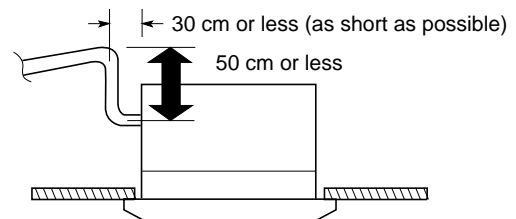

Fig. 2-9
- If it is necessary to increase the height of the drain pipe, the section directly after the connection port can be raised a maximum of 50 cm. Do not raise it any higher than 50 cm, as this could result in water leaks. (Fig. 2-9)